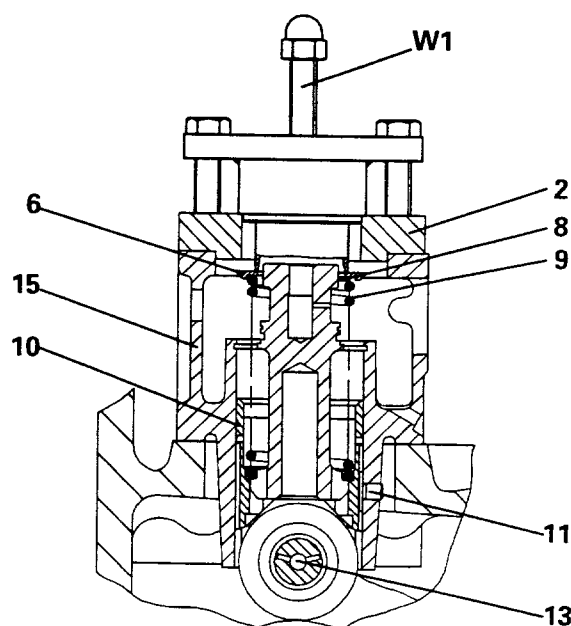

Fig. 2
- 1.6 Screw the device (Fig. 2/W1) onto the cover (2), compress the spring, remove the circlip (6), release the spring, unscrew the device, remove the spring plate (8) and the spring (9).